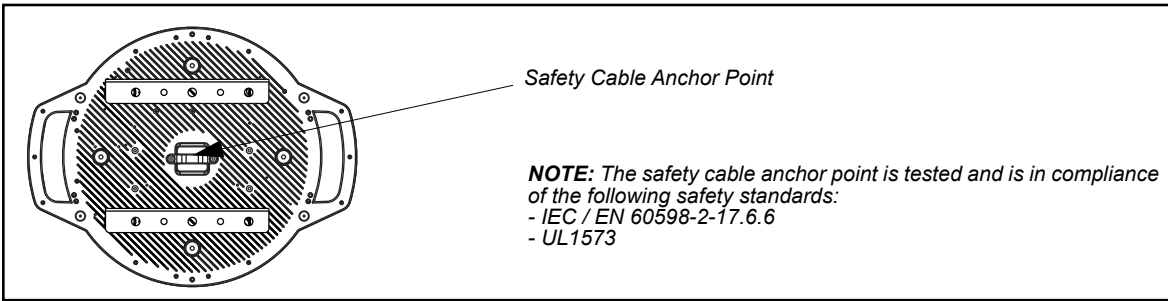

Figure 11: Safety Cable Installation / Luminaire Hanging
- Step 3. Attach safety cable (as required) as follows (refer to **Figure 11**):